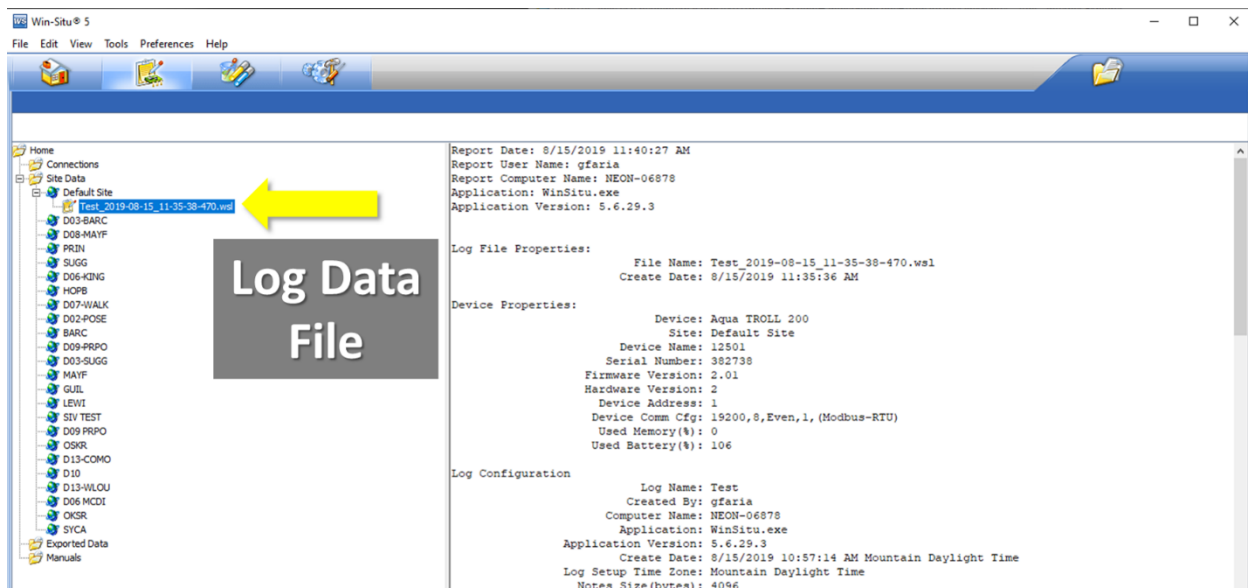
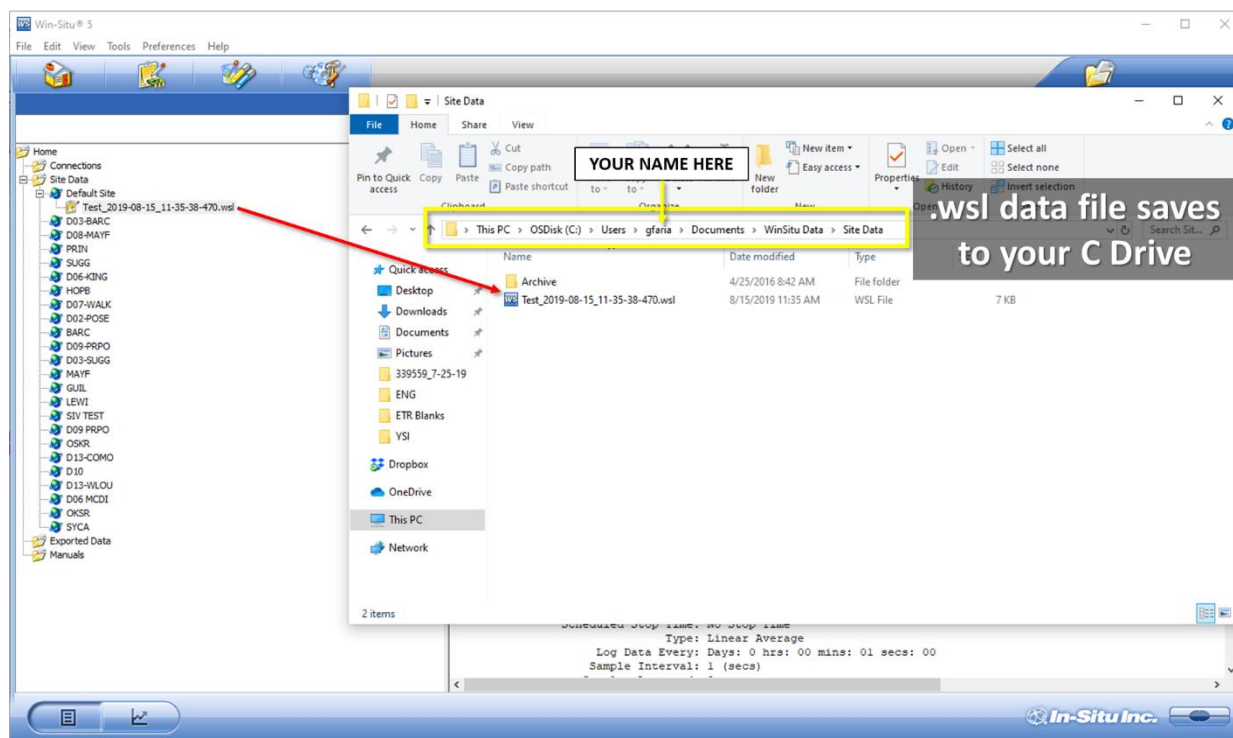

Figure 29. The Log File will be listed under your Site as a .wsl File
Figure 30. Data Saves to your C Drive under a "WinSitu Data" Folder
- This opens up a data view and your downloaded log file will be listed under your site as a **.wsl** (windows subsystem for Linux) file (Figure 29). This data saves to your C Drive under a **WinSitu Data** folder (Figure 30).